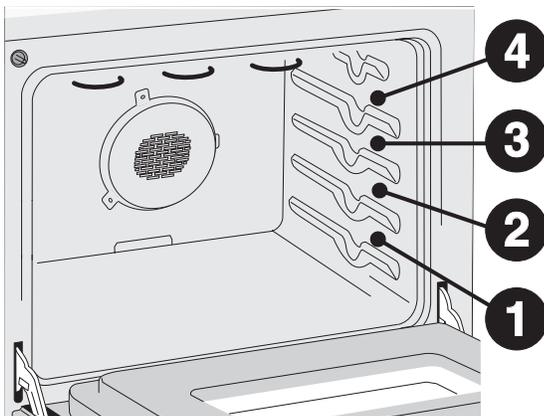

Figure 1
2. Arrange the interior oven rack and place the broiler pan on the rack. Be sure to center the broiler pan directly under the broiler element. **Make sure the oven door is in the broil stop position (See Figure 1).**